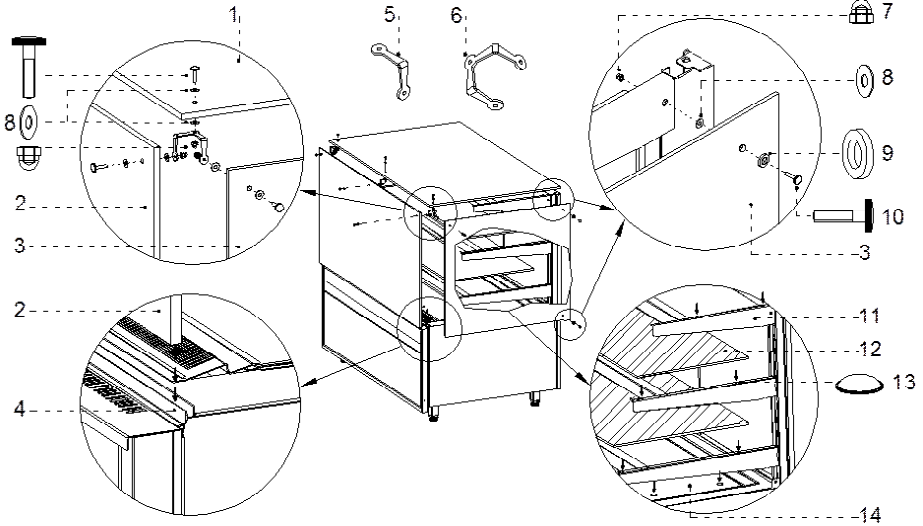

Fig. 5 Glass elements fixing
3 – Install glass elements Fig. 5 (p. 15) in the suggested order:
- Fix glass sides to the rack Fig. 5/3 (p. 15)
- Mount the front glass pane in the pane grip Fig. 5/4 (p. 15) and attach it to glass sides using three-sided angle Fig. 5/6 (p. 15)
- Mount the upper glass shelf Fig. 5/1 (p. 15)
- Mount glass shelves on the inner surface and on the rack Fig. 5/12 (p. 15). The shelves should be placed on silicone elements (bumper pads) Fig. 5/13 (p. 15) that prevent glass elements from moving.
- ⚠ While cleaning and maintaining the inside of the device, make sure you do not damage or remove the silicone components (bumper pads) Fig. 5/13 (p. 15) that protect glass elements protect from slipping and ensure a better grip.